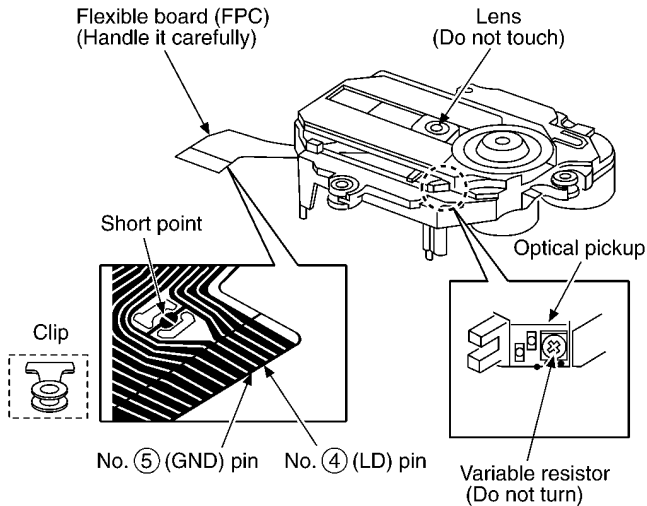

Fig.1
4. Do not turn the pre-set variable resistor (for adjustment of the laser power); it has been adjusted at the factory. (as shown in Fig.1)